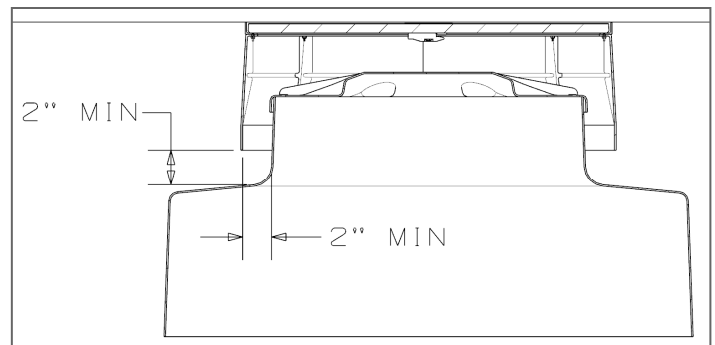

Figure 3
**Step 3:** It is strongly recommended that cover be installed with the following minimum clearances, (See Figure 3). Skirts should have adequate clearance between the tank sump riser sidewall and or the sump top hat. A minimum of two inches clearance on all sides is recommended between the skirt and the tank sump wall or the sump top hat wall. A minimum of two inches clearance is recommended between the bottom of the skirt and the horizontal surface of the tank sump or sump top hat. These clearances are recommended to allow adequate water migration away from the sumps. Great care should be used to maintain the recommended clearances when setting the rings and pouring the concrete as mentioned above.